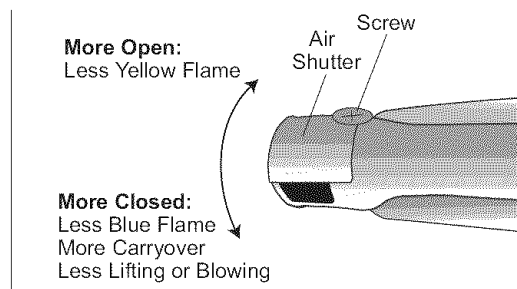

Figure 17: Air Shutter Adjustment (if necessary)
Tube-style gas burners used in Thermador® appliances have air shutter systems which are similar to the illustration in Figure 17, and can be adjusted using the following method (unless adjustment is not recommended). It is necessary to remove the burner from the appliance in order to perform air-shutter adjustments.
- Adjust the shutter to more-open position if the flame is too yellow. (See Figure 17.)